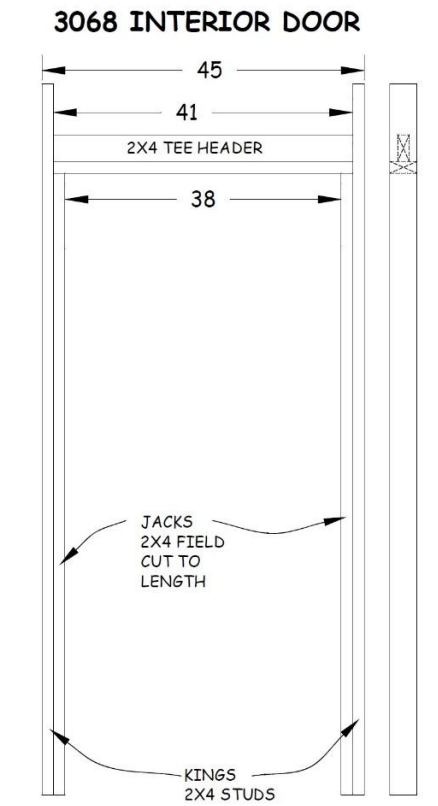

Figure 4-2. Example of Interior Wall Component Assembly Drawing.
1. Referring to the Component Assembly Drawings for interior components in the House Plan Support Documents, assemble the interior door components (see Figure 4-2 for an example of an interior component assembly drawing).
3. Identify the appropriate header and place it so the horizontal portion of the “T” header is on top of the Jack studs, tight against the King studs. Nail through the King studs into both ends of the header pieces with 3¹/₄” collated nails - two nails in the horizontal piece and one nail in the vertical piece of the header (see Figure 4-2).